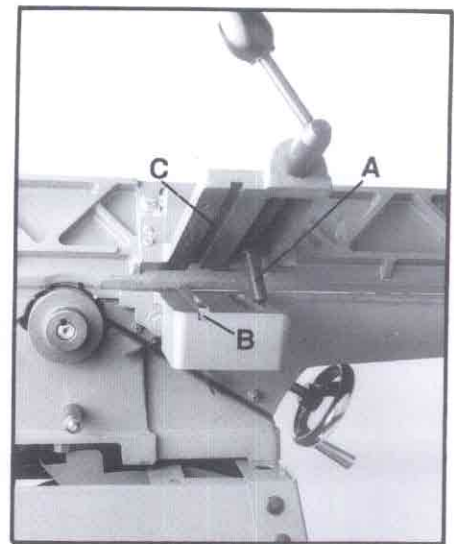

Fig. 9
1. Remove two hex nuts and a flat washer from the clamping bolt (A, Fig. 9) on the fence assembly.
2. Place the fence assembly onto the bed assembly. Make sure the key stock (B, Fig. 9) on the bed engages the slot (C, Fig. 9) in the fence casting.